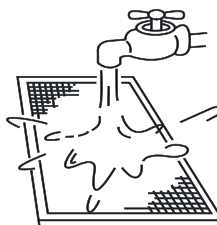

Fig. 6-9
- The air inlet side should face downwards if you are using clean water. (see Fig. 6-9).